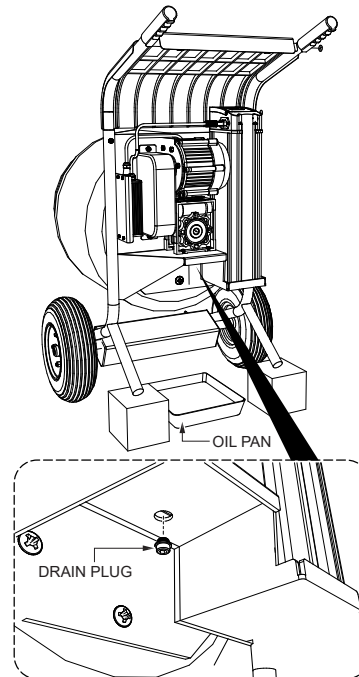

Figure 31. Oil Pan Placement
3. Next, place a oil pan (Figure 31) underneath the oil drain plug to catch the oil.